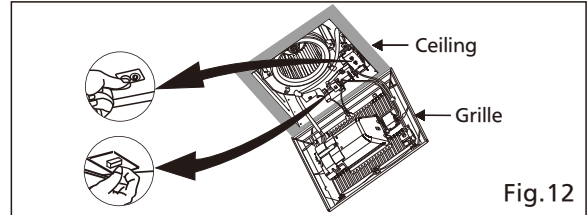

Fig. 12
15. Adjust Pick-A-Flow switch; if used, adjust the FV-VS15VK1 Multi-Speed module. (Fig.12) Refer to indication on page 6.